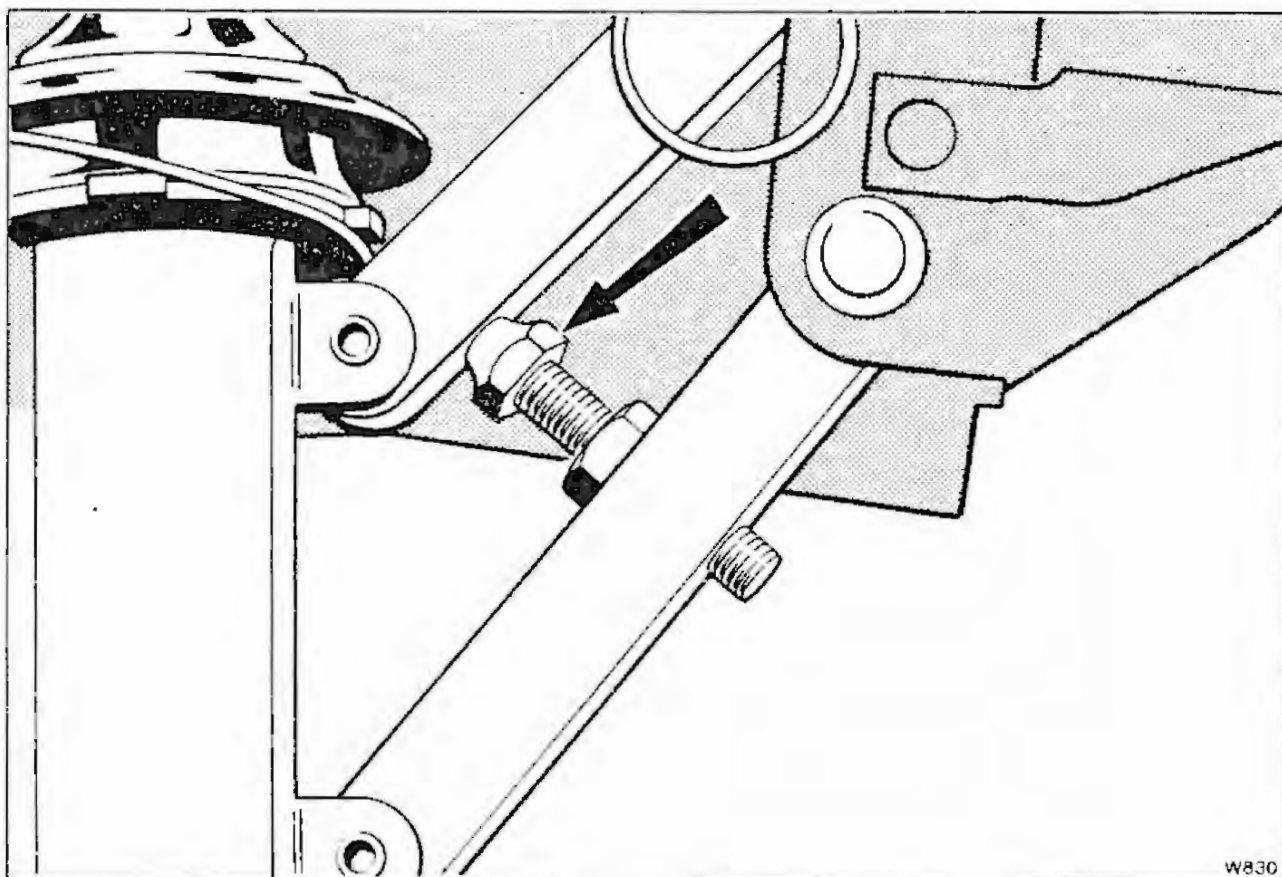

Fig. 5
5. Before refitting the radiator shell to the motor car, check that the mascot protrudes no more than 10 mm (0.40 in) above the top of the radiator shell when the mechanism is in the down position. Adjustment can be made on the bolt as shown in figure 5.